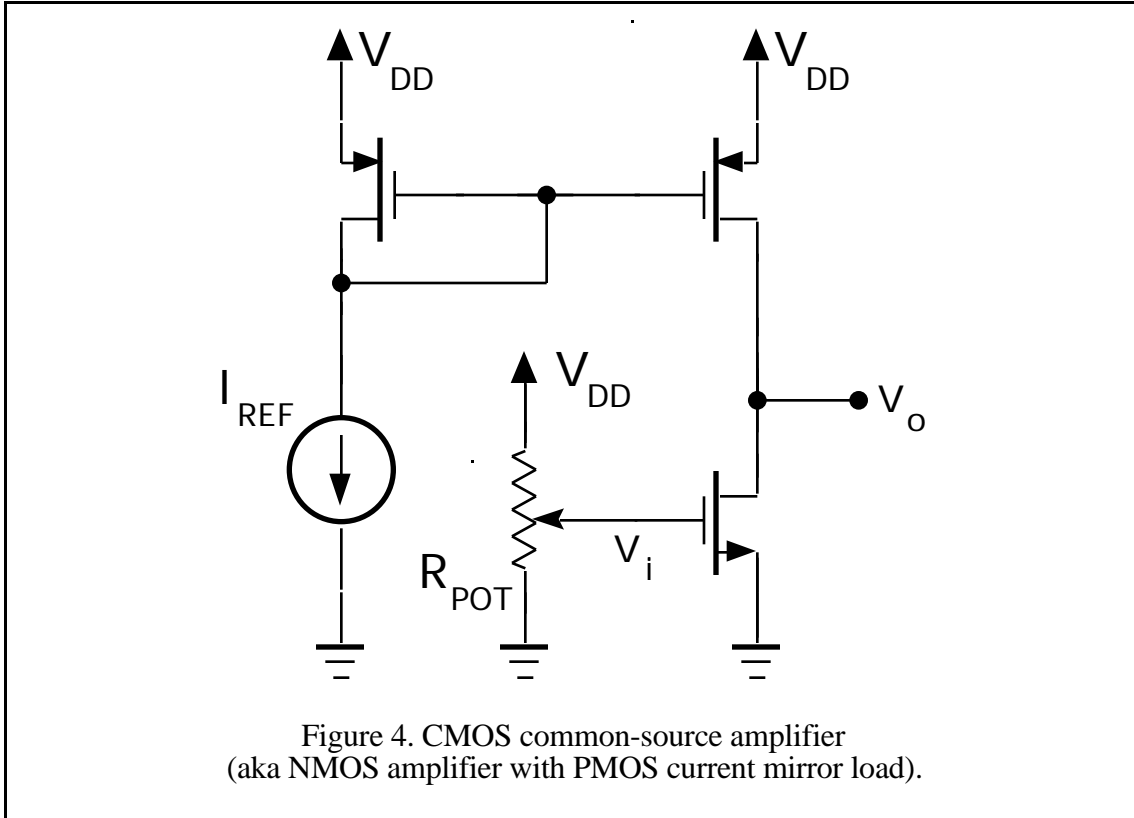

Figure 4. CMOS common-source amplifier (aka NMOS amplifier with PMOS current mirror load).
- Assemble the circuit as shown in Figure 4 above. Ensure that both substrate pins (*i.e.*, 7 and 14) are connected appropriately (*viz.*, pin 14 to  $V_{DD}$  and pin 7 to  $V_{SS} = \text{Gnd}$ ). All other pins may be left floating. Use some convenient potentiometer value – say,  $R_{POT} = 100\text{k}$  .